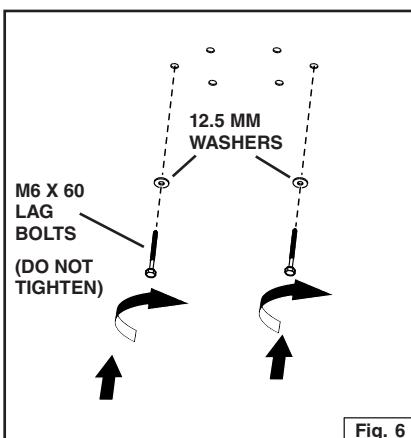

Fig. 6
2. Install (2) M6 x 60 lag bolts with (2) 12.5 mm washer on each into the keyslot holes drilled in Step 1. Do not tighten bolts. Fig. 6.